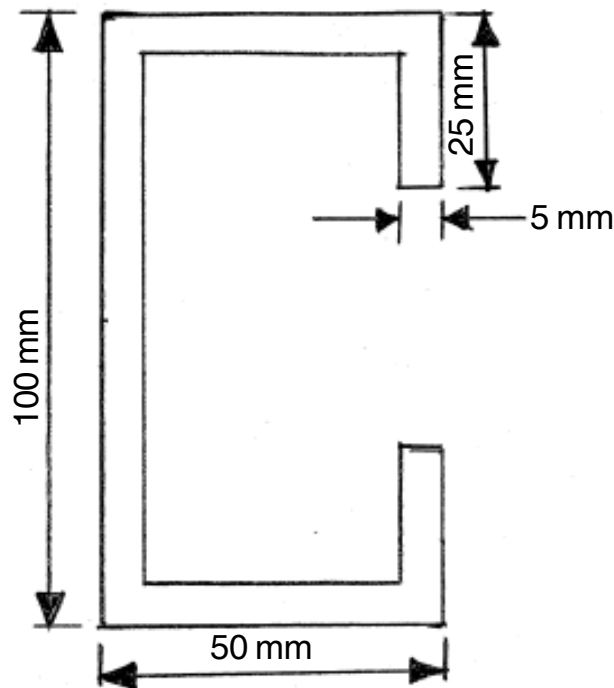

Fig. 1
- b) Locate the shear centre for thin lipped channel as shown in Fig. 1. The thickness is 5 mm throughout. 8